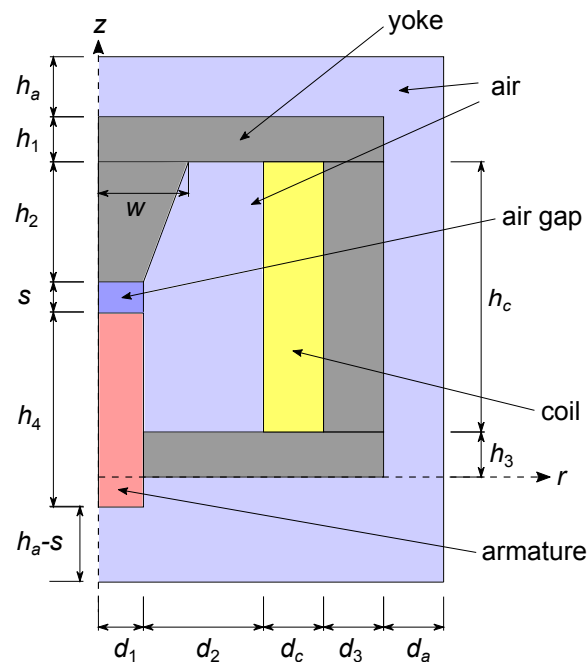

Figure 1: Inductive displacement sensor
Figure 1 depicts an inductive displacement sensor. The shown axis-symmetric setup consists of a stationary iron yoke with a movable armature (also made of iron) at its center axis. A cylindrical copper coil with 200 windings is located inside the stationary inner part of the yoke and has an inner radius of  $d_1 + d_2$  and an outer radius of  $d_1 + d_2 + d_c$ . Between the armature and the stationary parts of the yoke there is an air gap of height  $s$  which will strongly affect the inductance  $L(s)$  of the overall assembly. This dependency can be exploited in practice to determine  $s$  from the measurable value  $L(s)$  – as it was investigated for a similar setup during the winter term. This time, however, we want to consider a more realistic non-linear material behavior for the iron yoke and the iron armature.
1.1. The inductance of the setup shown in Fig. 1 can be estimated analytically as
2.3. Model the geometry depicted in Fig. 1. Use a *Polygon* and a *Difference* node where appropriate.